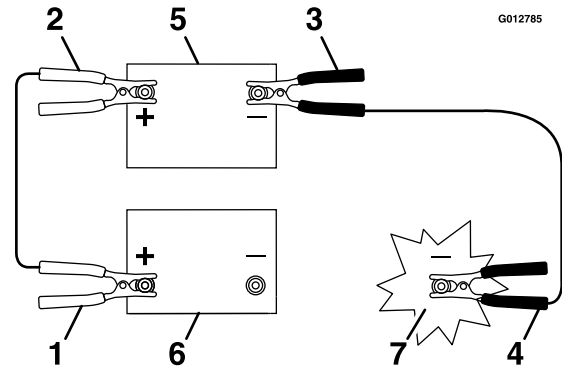

Figure 54
4. Connect the positive (+) cable to the positive (+) terminal of the discharged battery that is wired to the starter or solenoid as shown in Figure 54.